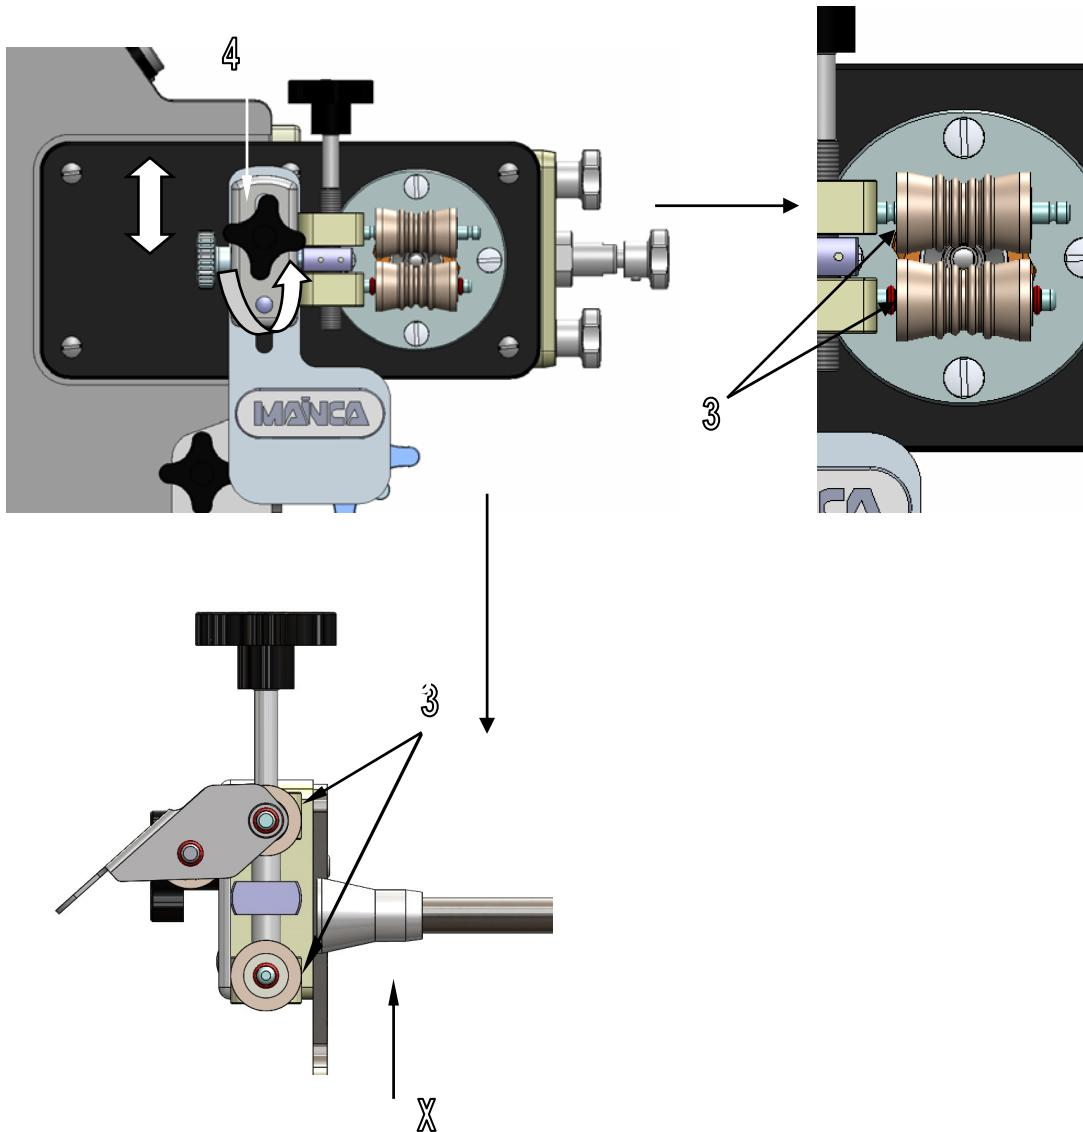

fig. 12
Next, set the roller's height by loosening the knob (4) and moving the support up & down with your hands. (see fig.12)
The gap between rollers (3) should not be aligned with the center of the silicon tip (X). We recommend to align the bottom of the upper roller (3) with the center of the silicon tip (X) to ensure the twist of casing. (see last fig. 12). Move the rollers up or down if necessary for better results.